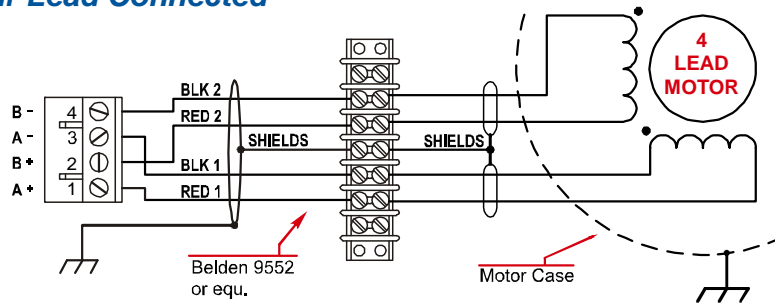

Figure 4.15 Motor Wiring
Figure 4.15, which is continued on the following page, shows how to wire a motor to the ANG1(M) in series, parallel, or center-tap configurations. Refer to the torque vs. speed curves on your motor's specifications sheet to determine how you should wire the motor to the ANG1(M). Please note that you can reverse the direction of motor rotation by reversing the connections of the ±B pins on the ANG1(M).